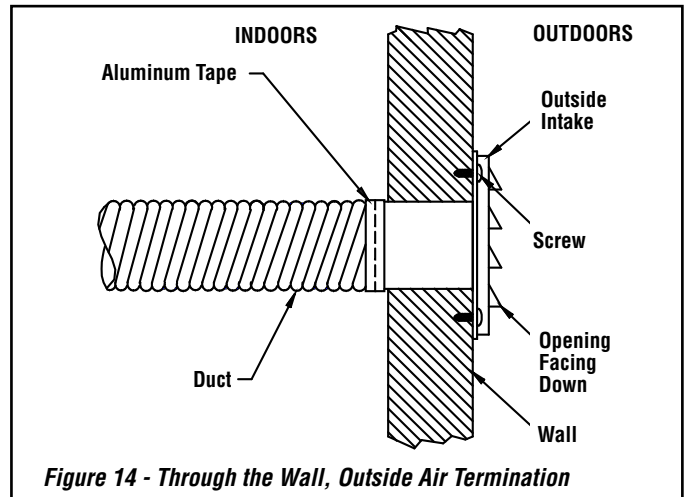

Figure 14 - Through the Wall, Outside Air Termination
- B) The air intake register must not be installed more than ten (10) feet (3050 mm) above the base of the stove.
- Make a 4-1/4" (110 mm) hole in the outside wall of the house at the chosen location. From outside, place the outside air register in the hole (open side down) and fasten the register to the wall, with screws as shown (*see Figure 14*).